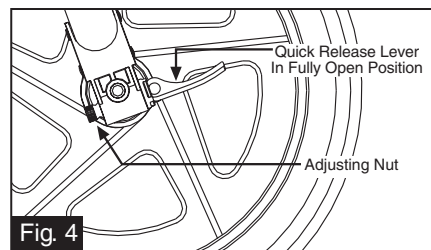

**Fig. 2**
- 2 SWINGARM:** Rotate the swingarm away from the front of the stroller until the shocks engage in the first position (Fig. 2). The shocks' locking pins will "snap" and lock into position 1.